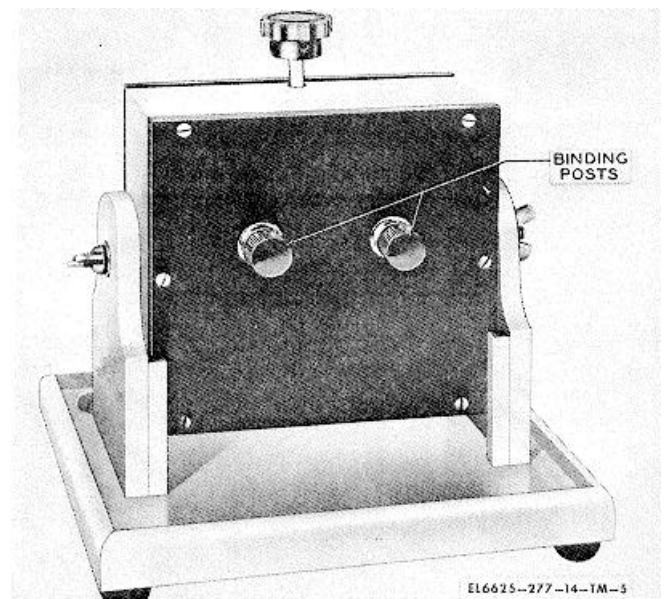

Figure 1-5. Mounting MT 135A/GSM-1, front view.
c. *Mounting MT-135A/GSM-1.* Mounting MT-135A/GSM-1 (fig. 1-5 and 1-6) is used to mount panel-type meters and to connect these meters electrically to the meter test set for calibration or repair. The mounting consists of a wooden box mounted on a metal shaft between two wooden pedestals. The pedestals are mounted on a wooden base. Thumbscrews at each end of the mounting shaft allow the box to be tilted so that the meter under test can be set in its normal operating position. The meter under test is mounted through two meter mounting holes on the front of the box. Jaws inside the box are adjusted by a knob on top of the unit to hold the meter firmly on the mounting. Two binding posts on the rear of the box are used to connect the mounting to the meter test set.